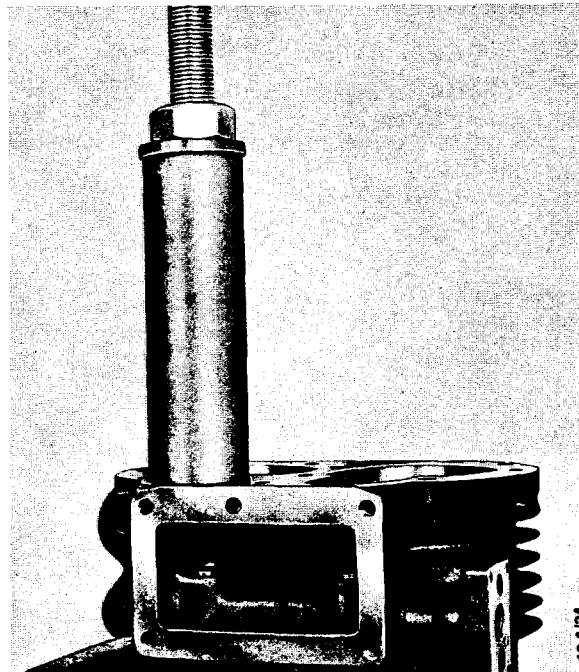
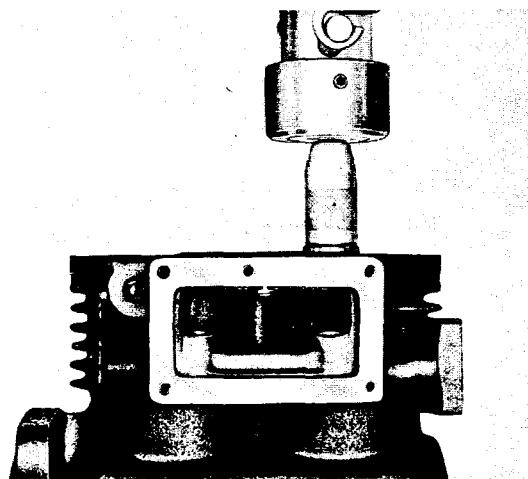

Fig. 8
Fig. 9
Change all the valves and valve springs. If the seats (13) of the inlet valves are worn they must be changed. The valve seats can be removed with an expander puller. A suitable tube can be used as a spacer (Fig. 8). Press the new valve seat in with the aid of a suitable drift, e.g. No. 88091 (Fig. 9). If the seats of the discharge valves are worn the valve housing (4) must be changed.